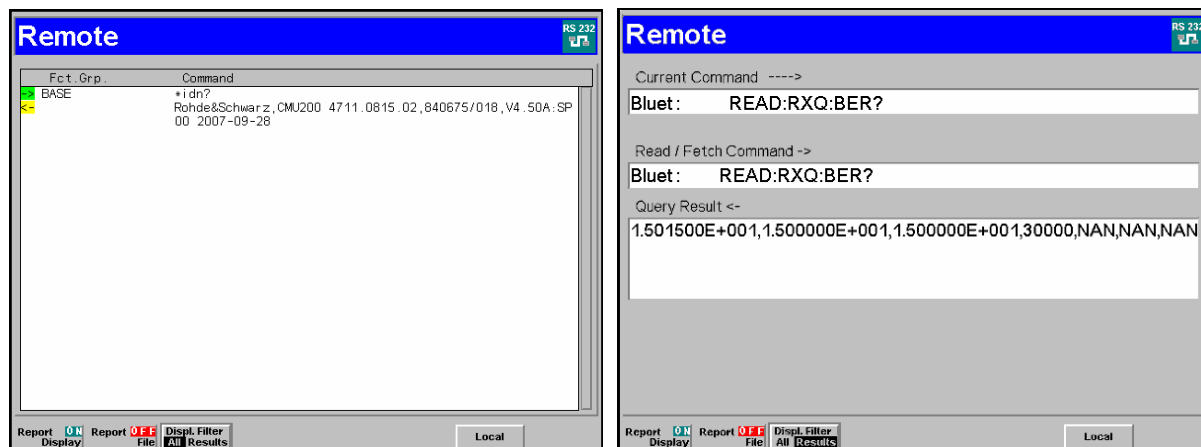

Fig. 5-1 Remote screen
- All* The remote screen shows all remote control commands that are exchanged between the controller program and the R&S® CMU (see example on the left-hand side of Fig. 5-1 above).
- Results* The commands are filtered: The remote screen only shows the current command (with a switched icon to distinguish several repeated commands) and the last `READ...?` or `FETCh...?` query sent to the R&S CMU, together with the received results. Compared to *Report Mode: All*, the font size is enlarged, and the secondary address string is abbreviated to 5 characters (e.g. `WCDMA` for `WCDMAUEFDD_NSig`). (see example on the right-hand side of Fig. 5-1 above). This report mode is suited for a rough observation of the command sequence, with an emphasis of the received results.